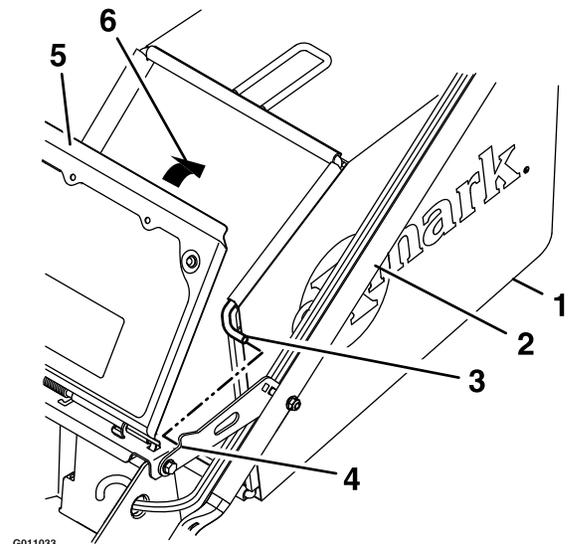

Figure 17
3. Grasp the handle on the bag and set the rear of the bag frame onto the handle bracket notch (Figure 17).